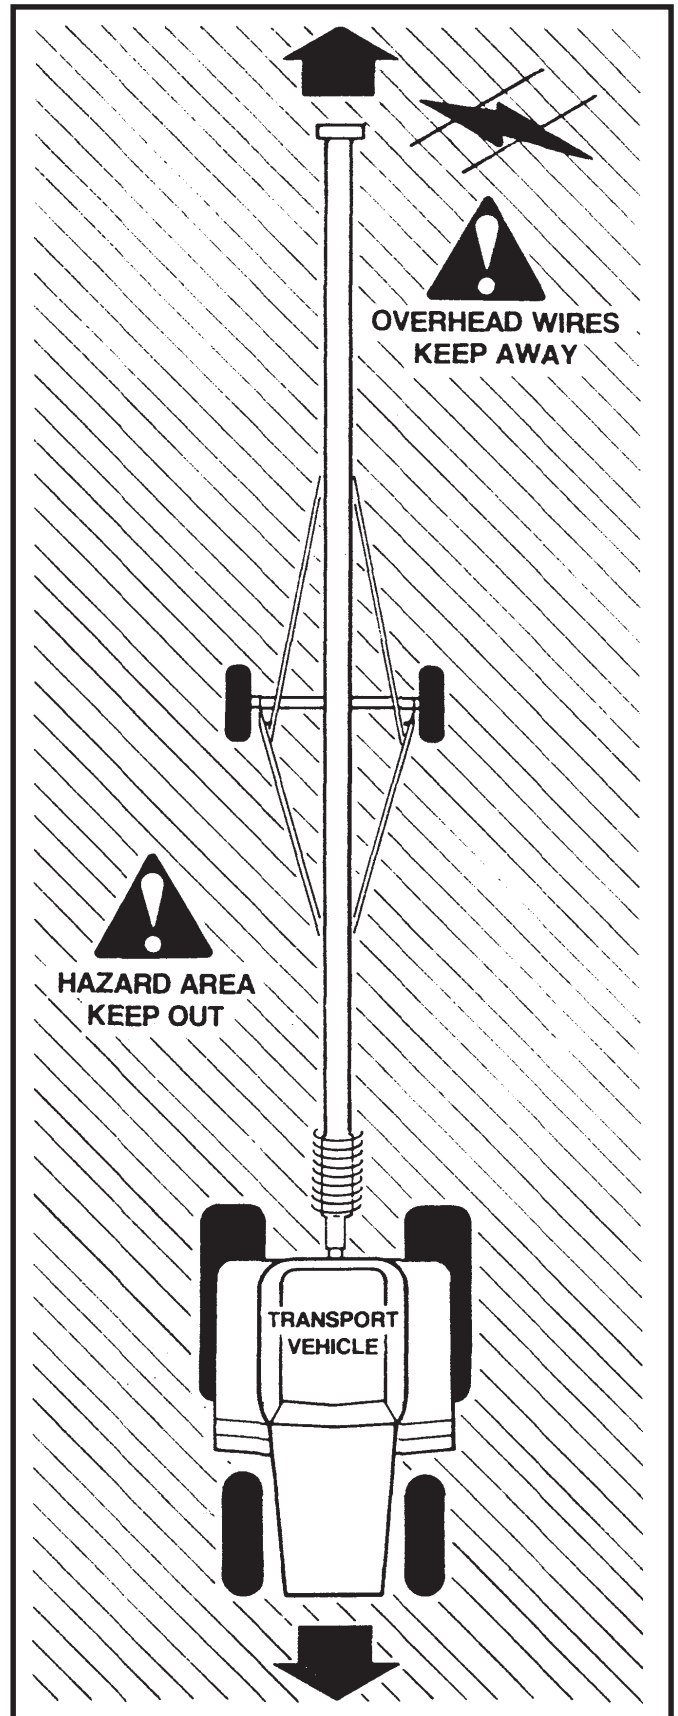

Figure No. 2.2.1
- Before moving auger, make sure the area around the auger is clear of obstructions and/or unauthorized personnel (see **Figure No. 2.2.1**).
DO NOT ALLOW PERSONS TO STAND BENEATH OR RIDE ON THE AUGER WHEN IT IS BEING TRANSPORTED. (See Figure No. 2.2.1)
1. Ensure that all unauthorized personnel are clear of transport zone. (See **Figure No. 2.2.1**)